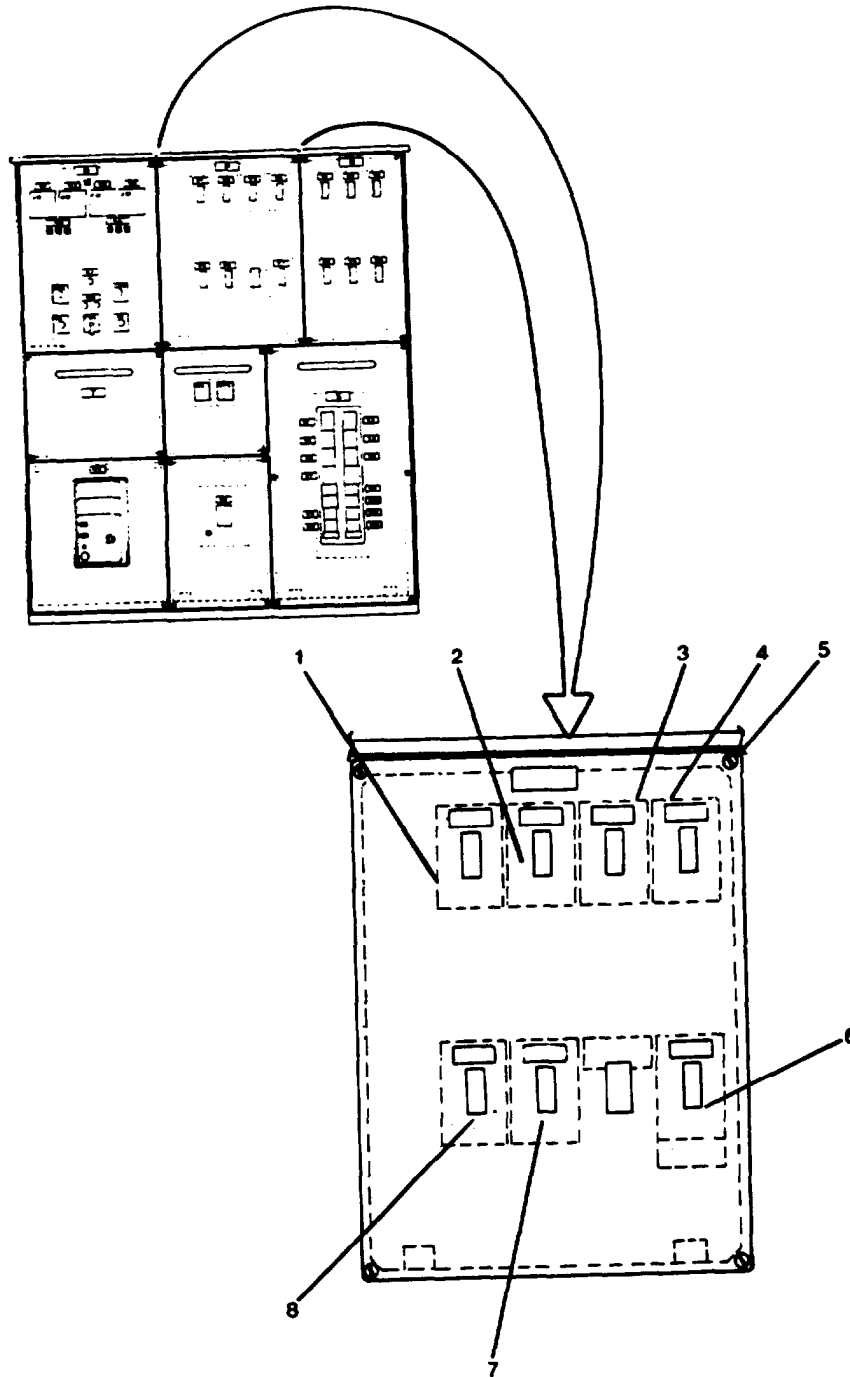

FIGURE 2-220. Emergency Generator Switchboard Top Center Panel.
**2-299. Repair Emergency Generator Switchboard Circuit Breakers. (FIGURE 2-220)**
For disassembly of circuit breakers (1, 2, 3, 4, 6, 7 and 8, FIGURE 2-220) refer to paragraph 2-292.